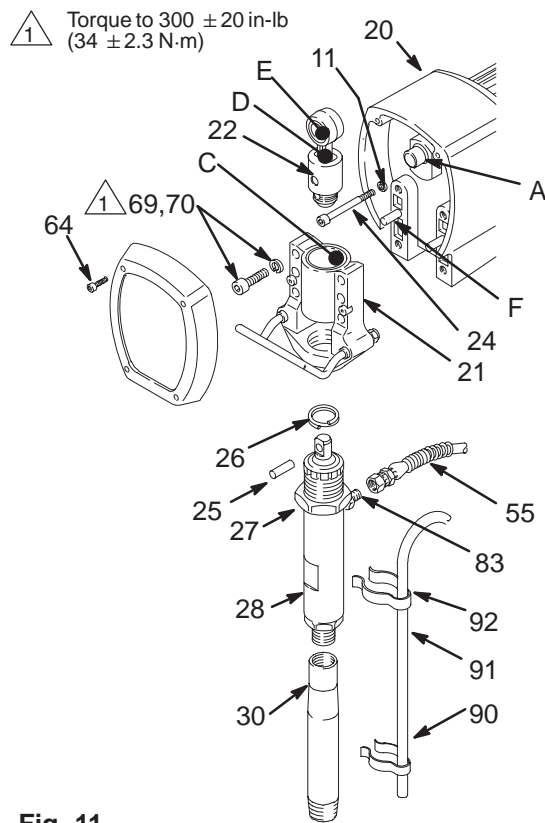

Fig. 11
**NOTE:** Steps 1 to 10 refer to Fig. 11.
2. Remove the four screws (69) and lockwashers (70) from the bearing housing (21).
3. While pulling the connecting rod assembly (22) with one hand, lightly tap the lower rear of the bearing housing (21) with a plastic mallet to loosen it from the drive housing (20). Pull the bearing housing and the connecting rod assembly off the drive housing.
4. Inspect the crank (A) for excessive wear and replace parts as needed.
5. Evenly lubricate the inside of the bronze bearing (C) in the bearing housing (21), and the inside of the connecting rod link (D), with high-quality motor oil. Liberally pack the roller bearing (E) in the connecting rod assembly (22) with bearing grease.
6. Assemble the connecting rod (22) and bearing housing (21).
8. Align the connecting rod with the crank (A). Align the locating pins (F) in the drive housing (20) with the holes in the bearing housing (21). Push the bearing housing onto the drive housing or tap it into place with a plastic mallet.